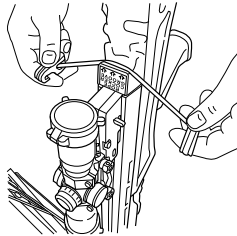
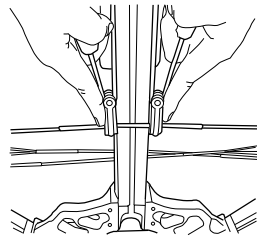

Figure 12
Figure 13
- ③.1 Use of the Carbon Express® rope cocker reduces the effort required to cock your crossbow by half. This device also ensures perfectly straight cocking, a key ingredient of top accuracy.
- ③.2 Place the trigger safety into the “Fire” position. With your crossbow in the cocking position, place one foot securely through the foot stirrup.
- ③.3 Place the center of the cocking rope in the rope groove provided in the stock behind the sight bridge (See Figure 12). The cocking handles should be positioned to the outside. Pull both cocking hooks simultaneously down along the barrel and attach them to the crossbow string directly alongside the barrel (See Figure 13).